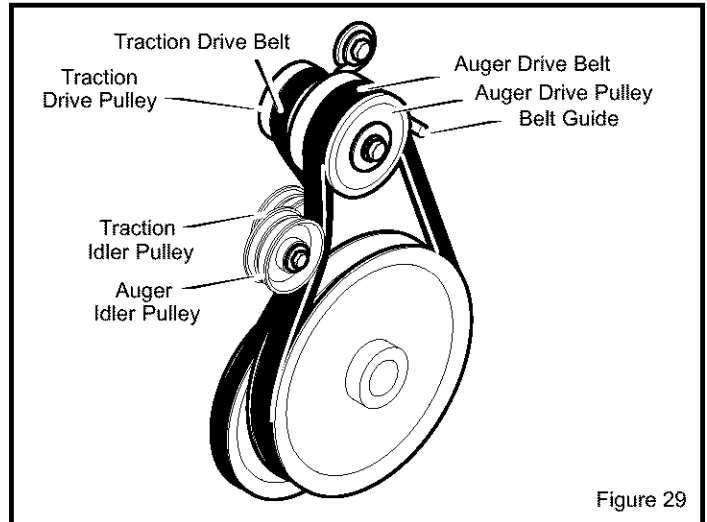

Figure 29
3. Loosen nut on auger idler pulley and move auger idler pulley towards belt about 1/8 inch (3 mm) (see Figure 29).
### AUGER DRIVE BELT (SEE FIGURE 29)
6. Loosen belt guide and pull away from auger drive pulley. See Figure 29.
7. Loosen belt guide and pull away from auger drive pulley. See Figure 29.